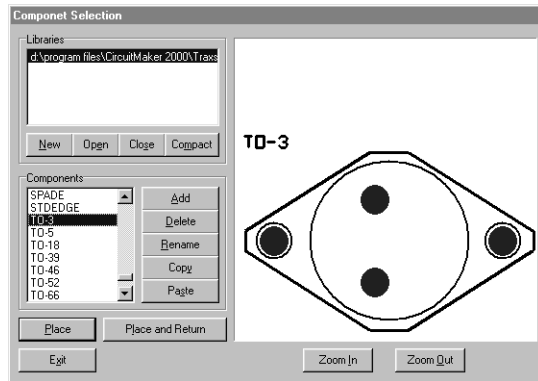

Figure 4.4. The Component Selection dialog box lets you select a component from a list, then place it on the board.
This tool lets you select from among a library of components (see Figure 4.4), add text labels to the component, then place it on the board. See *Chapter 5: Managing Libraries* for more information about defining new components and working with different libraries.
- 3 From the **Edit Component** dialog box (see Figure 4.4), make the desired changes, then choose OK.